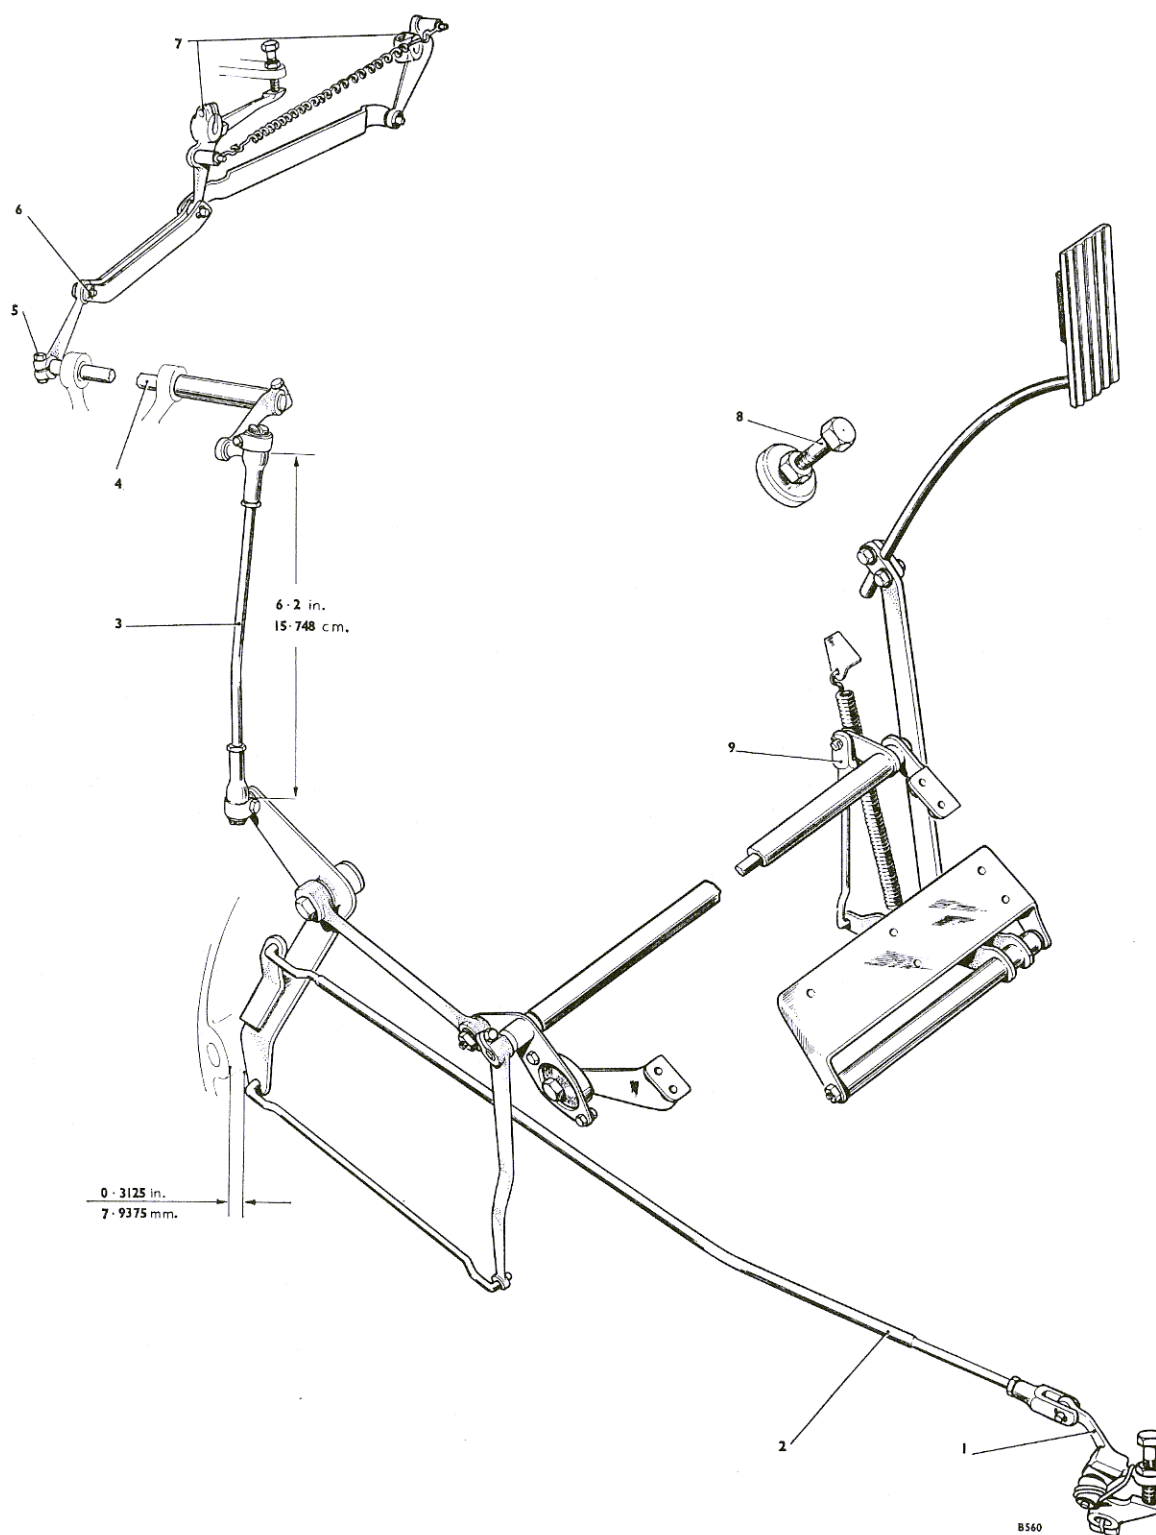

Fig. 28 Throttle and T.V. control linkage — R.H. drive cars
On right-hand drive cars, drive the car onto a ramp or over an inspection pit, then disconnect the T.V. rod at the gearbox end by removing the split pin and clevis pin (see (2) in Figure 28).
Detach rod (3) by removing the pinch bolts and ball joint adjusting screws. Check the distance between the ball joint centres as indicated in Figure 28. This should be approximately 6.200 in.
Slacken the clamp bolt (5) on the manifold shaft and insert a 0.3125 in. distance piece between the boom-erang lever and the bell housing as indicated in Figure 28. If no assistance is available to hold this in position it may be secured with adhesive tape.